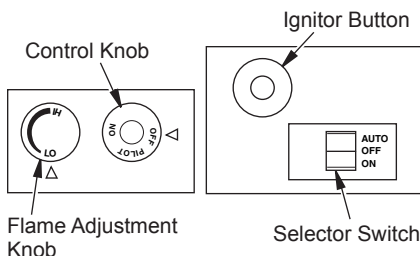

Figure 32 - Control Knob and Ignitor Button Location (Shown as Supplied, No Control Options)
- Wait five (5) minutes to clear out any gas. Then smell for gas, including near the floor. If you smell gas, STOP! Follow "B" in the safety information, page 19. If you don't smell gas, go to the next step.
- Press in and turn control knob counterclockwise  to the PILOT position. Press in control knob for five (5) seconds (see Figure 32).